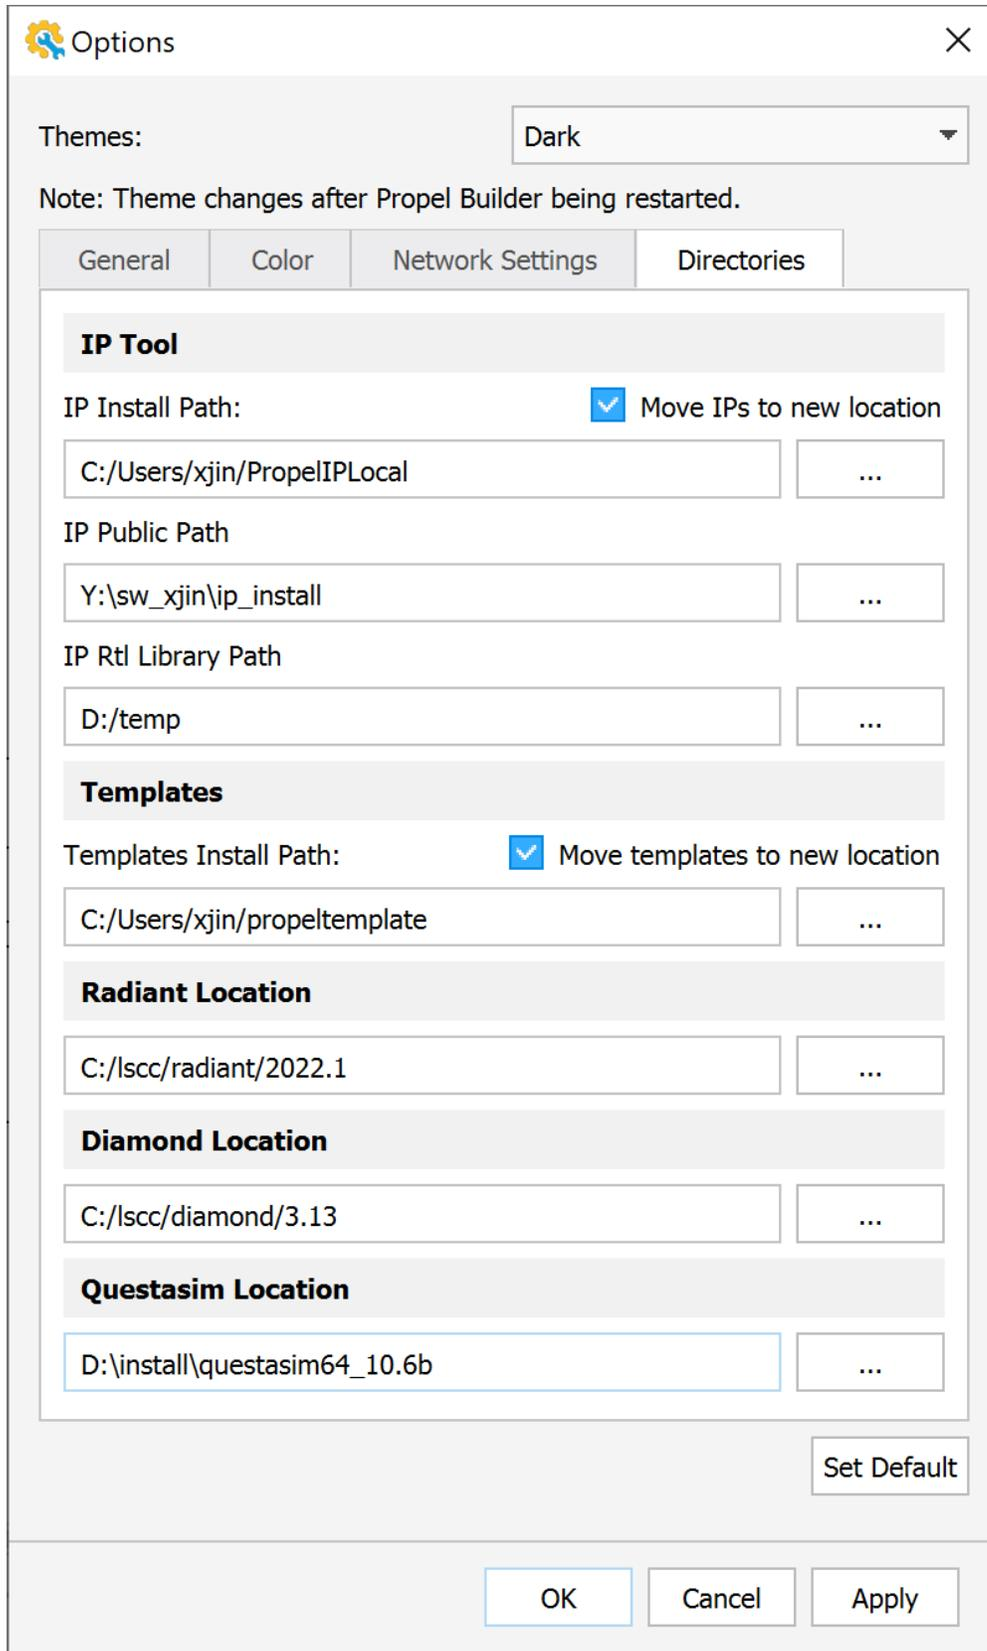

Figure 2.96. Directories
- Directories (Figure 2.96)
IP Tool (Figure 2.96):
- IP Installed Path (Figure 2.96): Folders of the IPs that are downloaded and installed. Refer to the Generating and Instantiating IP/Module section for more details.
- IP RTL Library (Figure 2.96): Folders of the IP RTL library. Refer to Lattice Propel 2023.2 IP Package User Guide \(FPGA-UG-02187\) for more details of the IP RTL Library.
Templates (Figure 2.96):
Radiant Location (Figure 2.96): Folder where Radiant software installed.
Diamond Location (Figure 2.96): Folder where Diamond software installed.
Questasim Location (Figure 2.96): Folder where Questasim software installed (see Launching Simulation section for more information).